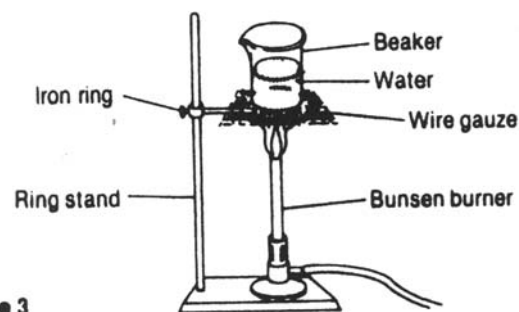

Figure 3
6. Arrange the apparatus as pictured in Figure 3.